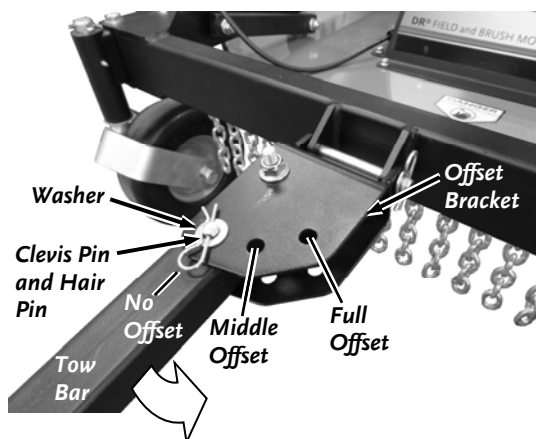

Figure 21
1. Remove the Hair Pin, Washer, and Clevis Pin that secures the Tow Bar in the Offset Bracket (**Figure 21**).